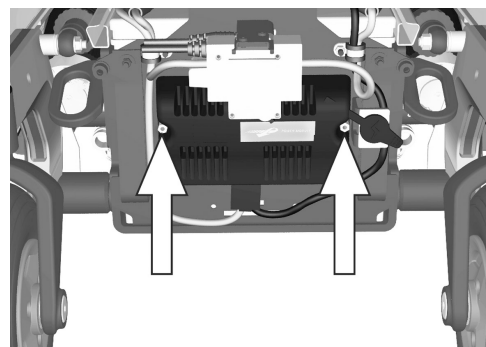

Figure 462. The power module is fitted with two nuts.
1. Reassemble the power module and battery cable holder, it is fitted with two nuts. See fig. 462.
2. Reconnect the electrical connections to the R-net controller and wrap the cable according to fig. 462.